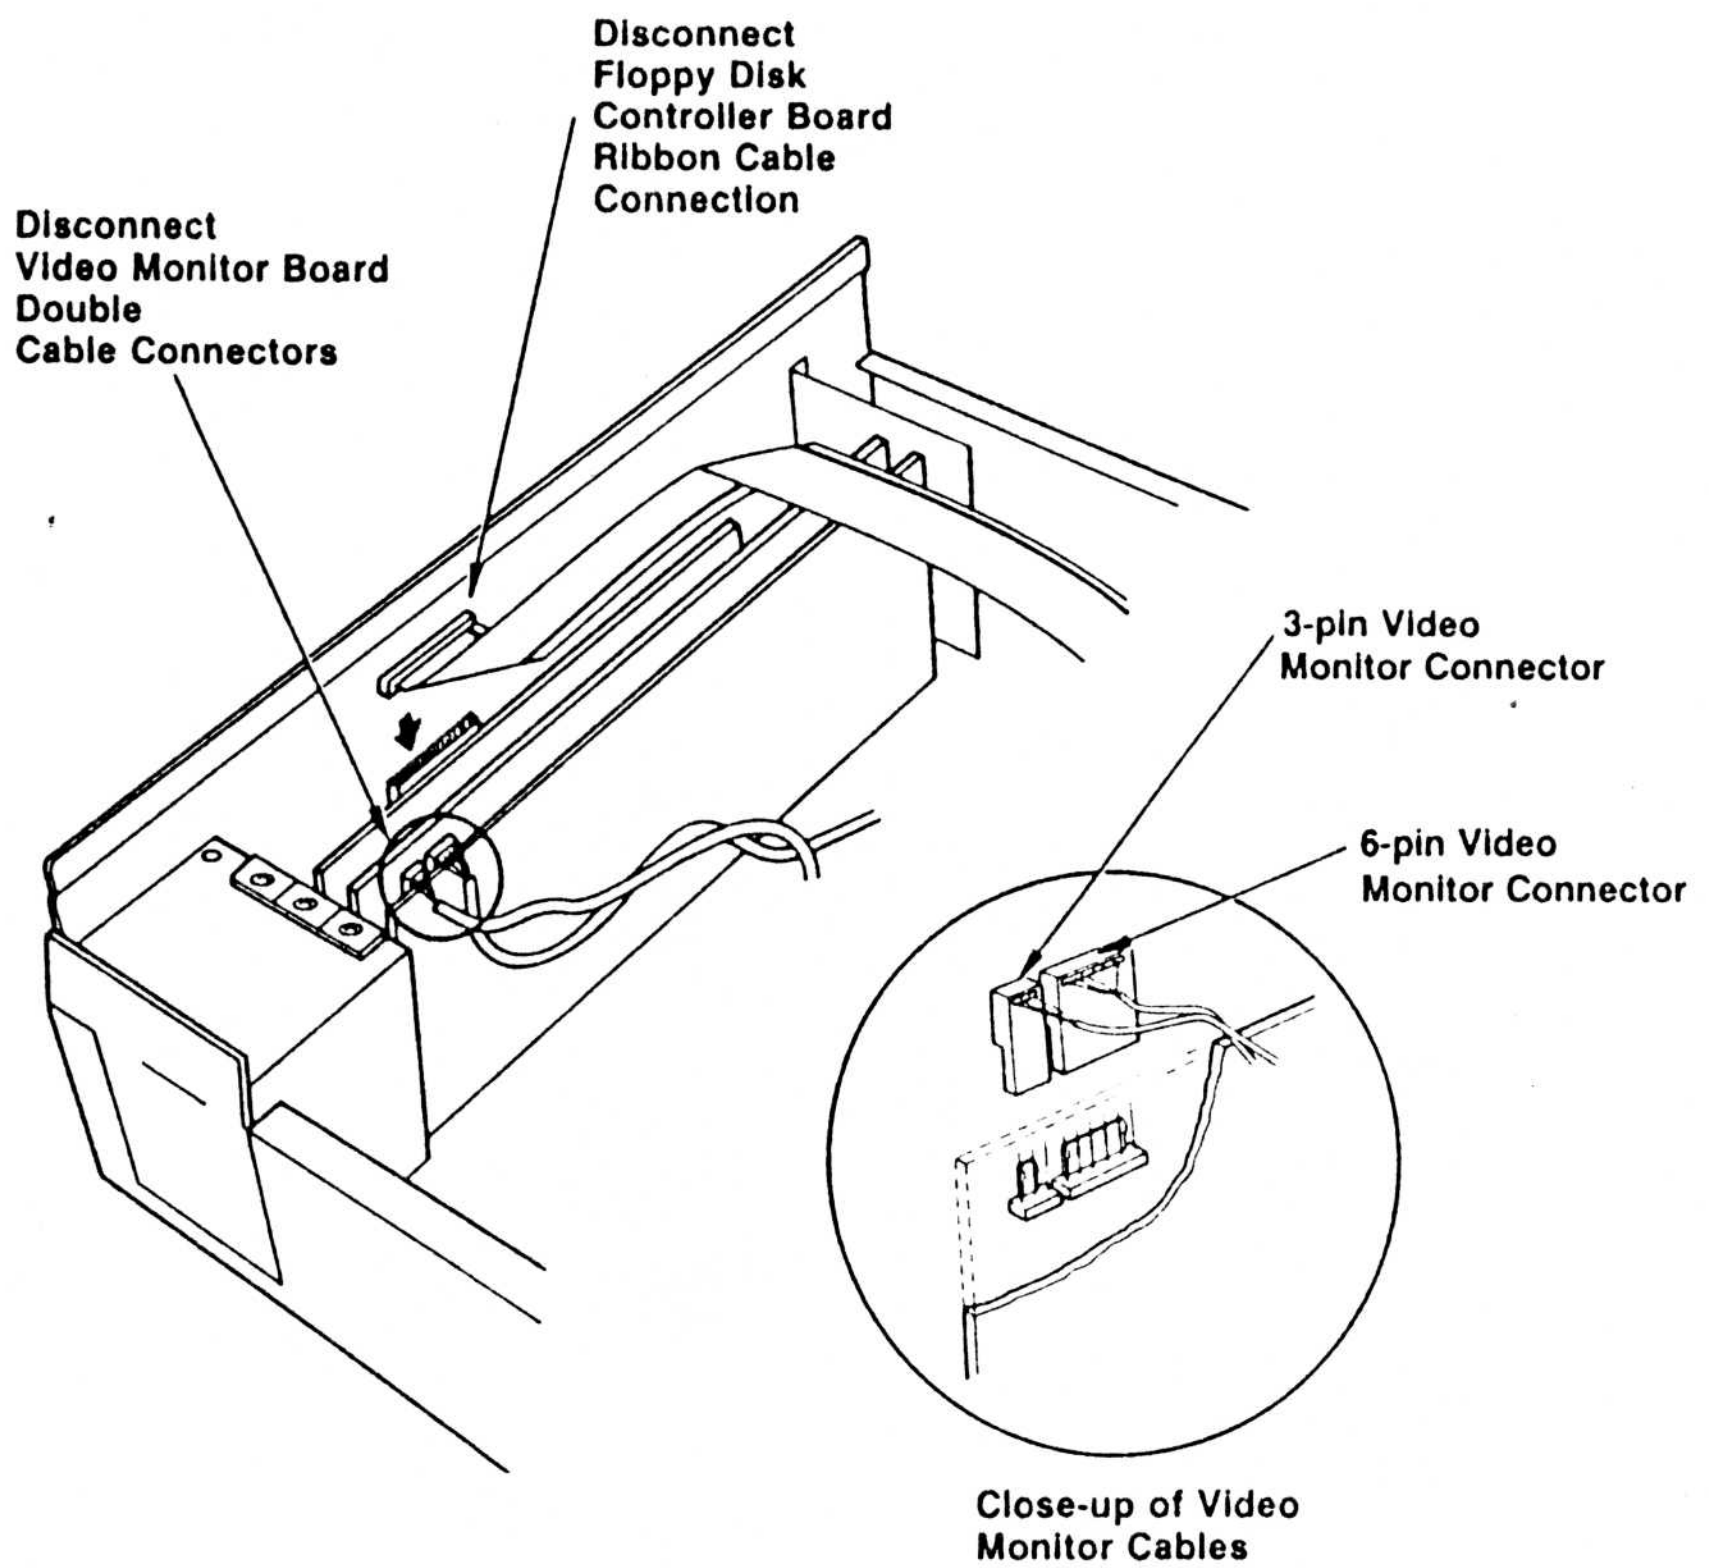

FIGURE 10: SPIRIT EXPANSION BOARD CAGE
- STEP 6** Disconnect the double cable from the video monitor board. Refer to Figure 10.
- STEP 7** Disconnect the ribbon cable from the floppy disk controller board. Refer to Figure 10.
- STEP 23** Reconnect the ribbon cable to the floppy disk controller board. Make sure the red edge on the ribbon cable is on the left and the polarity arrows meet at the connection. Refer to Figure 10.
- STEP 25** Connect the double cable to the video monitor board. Refer to Figure 10.